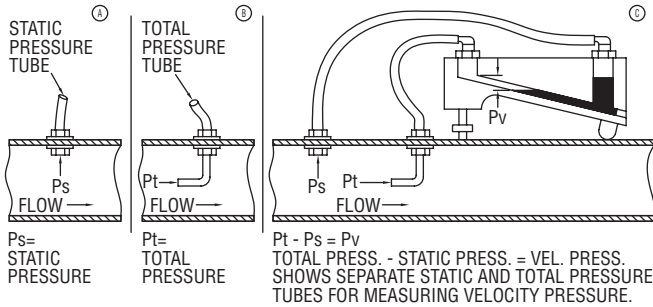

Figure 2 - Types of Pressure Measurements
In Figure 2, note that separate static connections (A) and total pressure connections (B) can be connected simultaneously across a manometer (C). Since the static pressure is applied to both sides of the manometer, its effect is cancelled out and the manometer indicates only the velocity pressure.